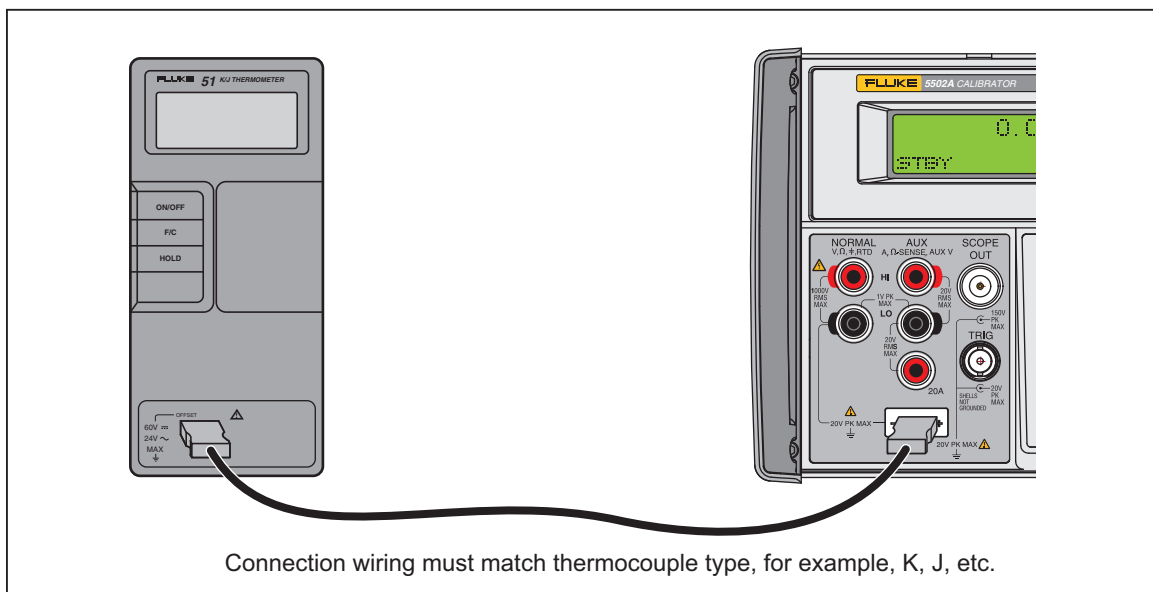

Figure 4-19. Cable Connections to Verify a 50 Series Thermometer
1. Connect the Fluke 51 Thermometer to the Calibrator with the correct connection cable (Figure 4-19). The connection cable and miniconnector material must be the same as the thermocouple type. For example, if you verify a K thermocouple, the cable and miniconnector are for a type-K thermocouple.
2. Make sure the Calibrator is in standby and connect the UUT to the Calibrator as shown in Figure 4-19. When you make this connection with the UUT case top removed, make sure that the wide blade is on the same side as the wide case top hole.